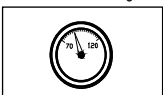

Fig.4
5. Regulate the air pressure to obtain 70 PSI (4.8 bar) at the tool. (See Fig. 4.)